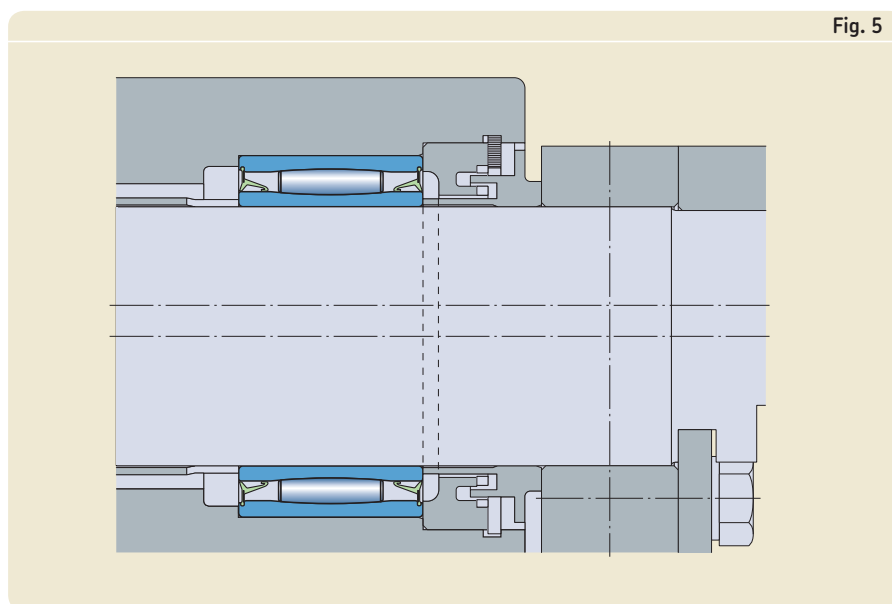

Fig. 5
- only external seal (housing) is re-lubricated (→ **fig. 5**)